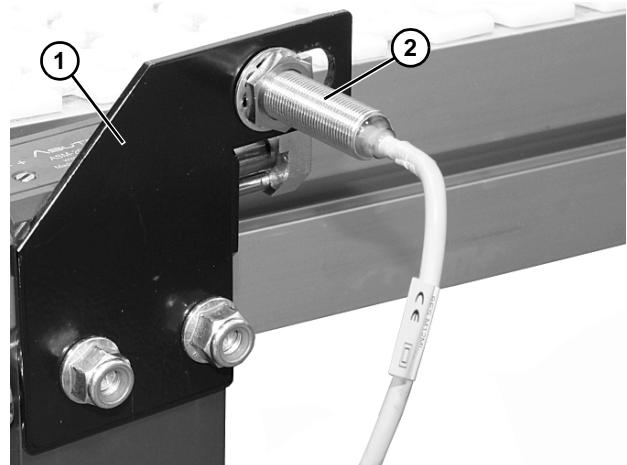
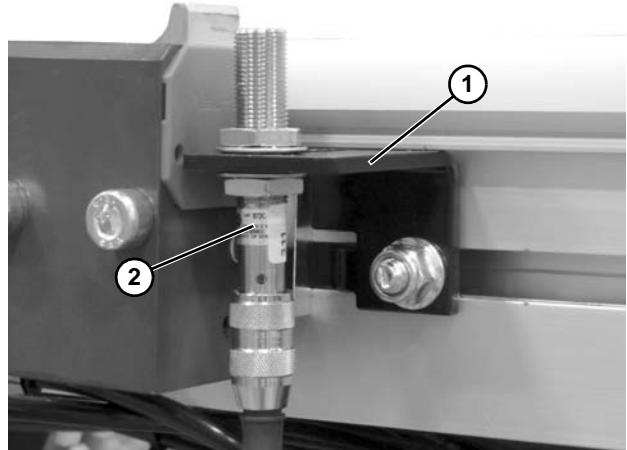

Figure 6
Figure 7
- Side Sensor (**Figure 6**)
- Bottom Up Sensor (**Figure 7**)
Optional sensor bracket (**Figure 6, item 1**) and (**Figure 7, item 1**) can be used to mount a 12 mm barrel proximity sensor (**Figure 6, item 2**) and (**Figure 7, item 2**).